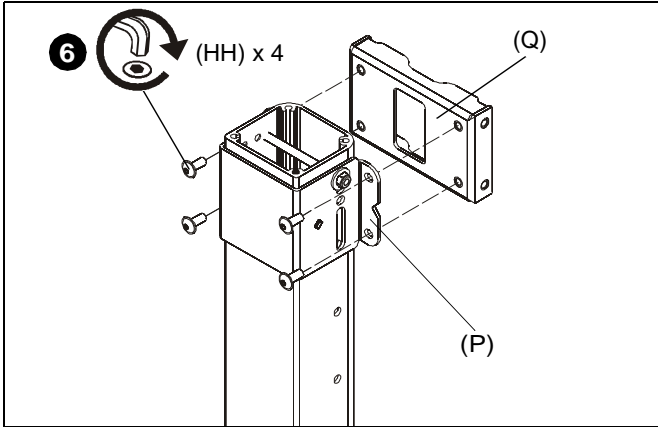

Figure 5
6. Use four 5/16-18 x 3/4" button head flange screws (HH) to secure each attached clamp bracket (P) to a quick connect base (Q). (See Figure 5)